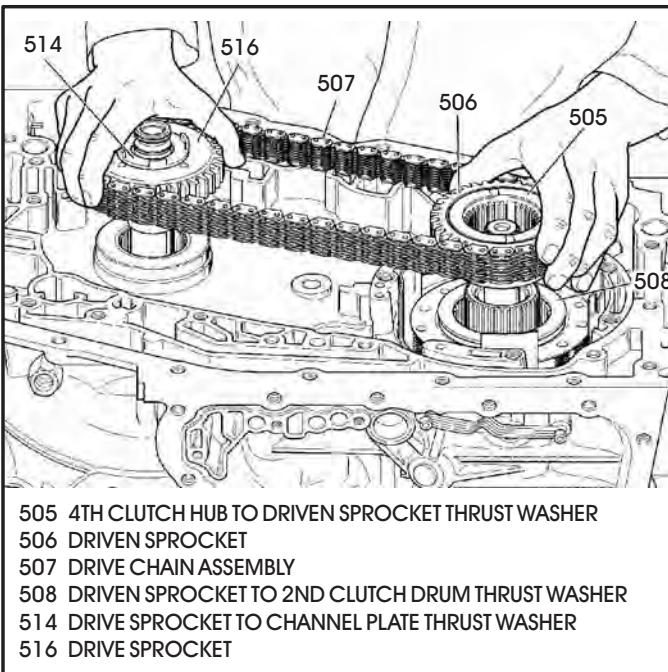

Figure 188
47. Rotate the transaxle so that side cover surface is facing up, as shown in Figure 188.
48. Install the preassembled sprockets and drive chain assembly, as shown in Figure 188, and ensure that they are fully seated.